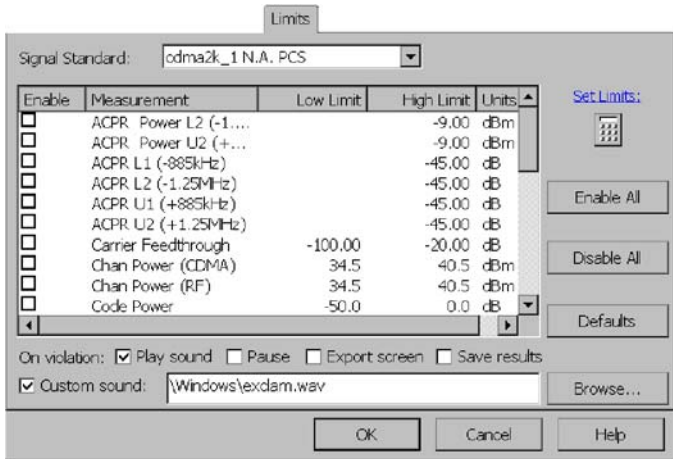

Figure 3-68: Enabling limit testing
2. Tap the **Limits** tab. See Figure 3-68.